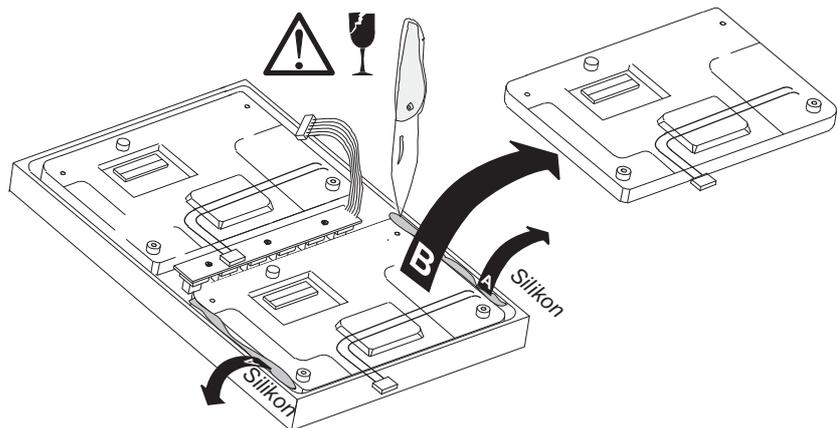

Fig. E 8-28: Lösen und Entfernen des defekten Displays
5. Remove carefully the fixing silicone (see Fig. E 8-28, A). Avoid damage of the connected cables. Disassemble the broken display (see Fig. E 8-28, B).